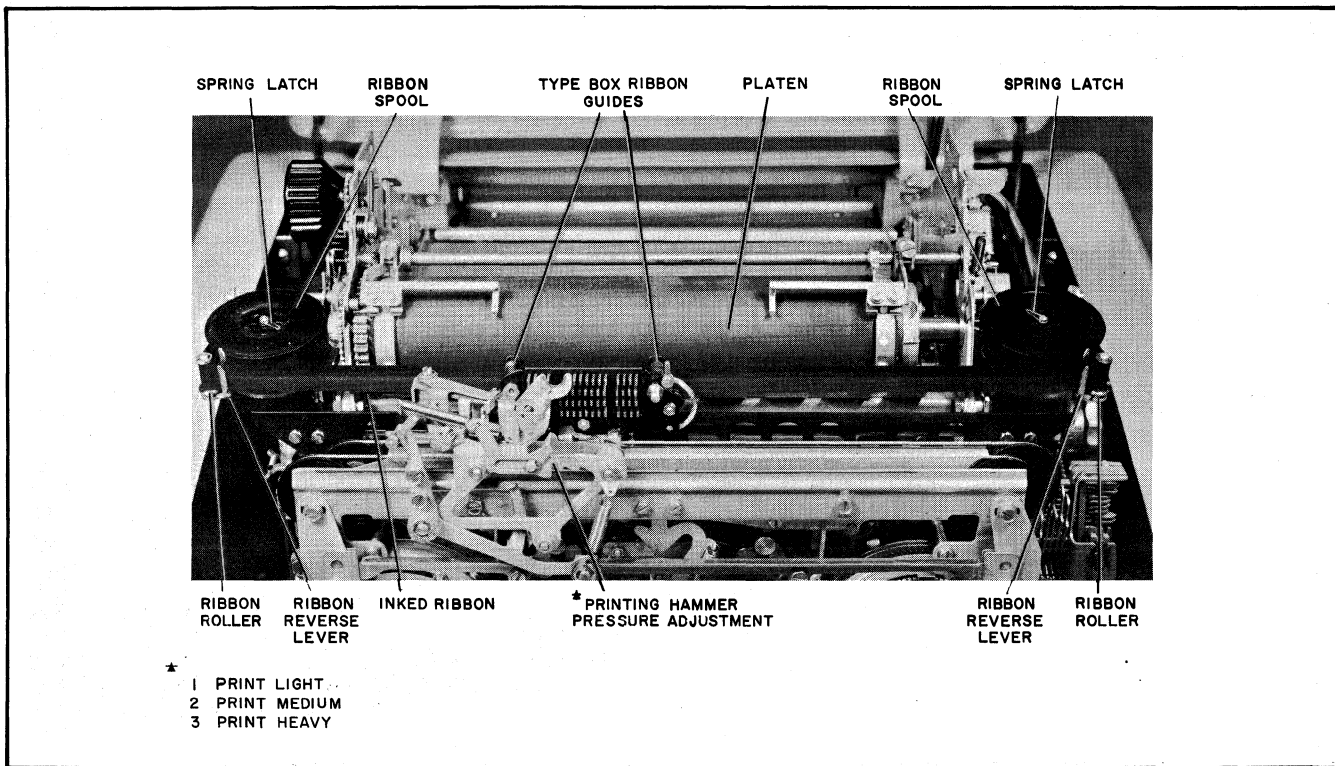

Figure 17. Ribbon Replacement
- ◆ To install a new ribbon in the typewriter proceed as follows: (Reference Figure 17.)